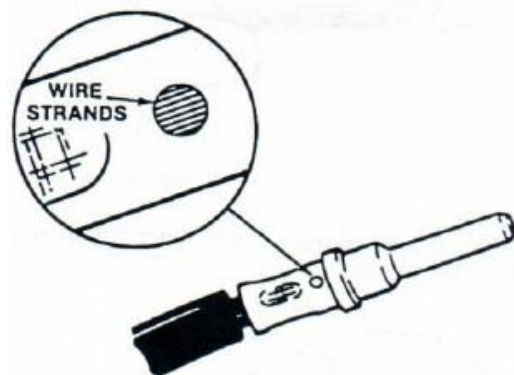

Figure 208
17. Put the stripped end of the wire into the contact. Make sure that all the strands of wire are inside the contact. Make sure that you can see the strands of wire the hole in the side of the contact. Figure 208
20. Make sure all of the wire strands are inside the crimped contact. Look through the hole in the side of the contact for the wire strands. Figure 208